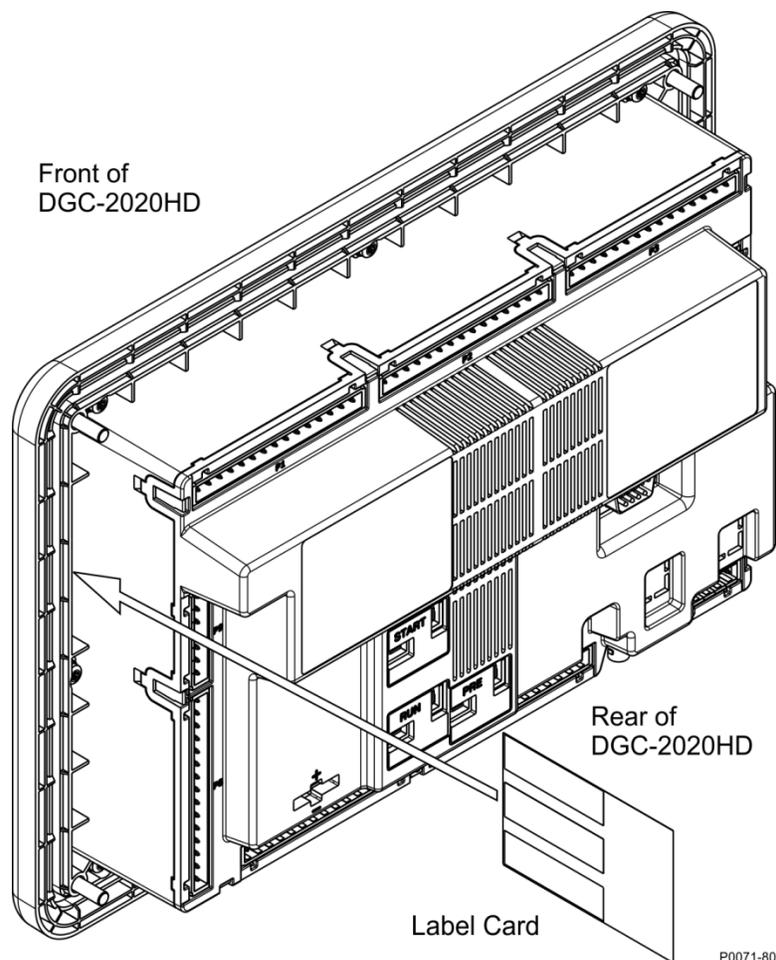

Figure 1-3. Label Card Slot Location
5. Grasp the tab of the label card and pull free. The label card tab is located on the rear of the DGC-2020HD, see Figure 1-3. When facing the back of the panel, the label card tab is on the left.